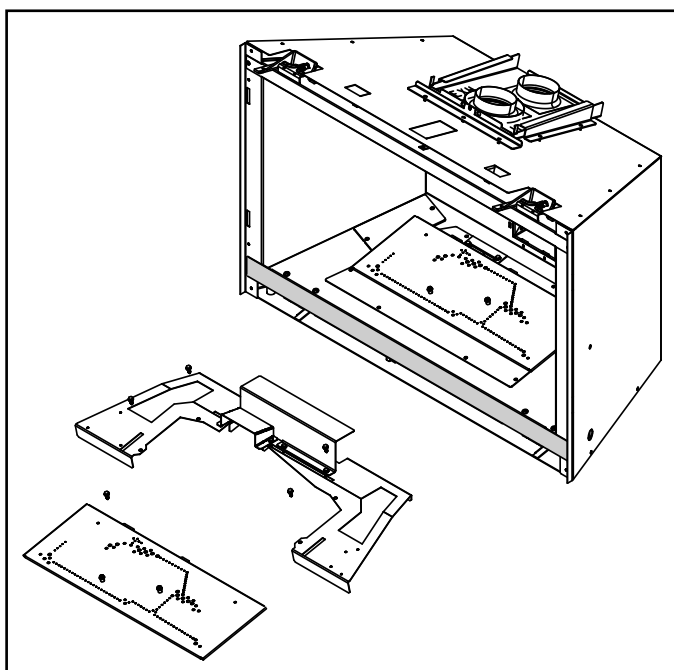

Figure 5 Base Pan and Burner Assembly Removal - Traditional
12. Remove the burner and base pan assembly. Reference Figure 5, 6 or 7 depending on model being converted.